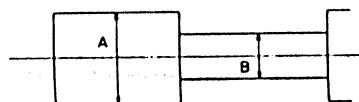

Fig. 11 Envelope output and output level difference
1. Make recordings on E-120 and E-180 tapes, and make sure the playback output envelope meets the specification shown in Fig. 11
2. In playback mode using the same video deck as used for the recording, (with a E-120) the video envelope should meet the specification shown in Fig. 11. In mode, (A) should be same as (B). If the difference is excessive then the upper cylinder should be replaced.